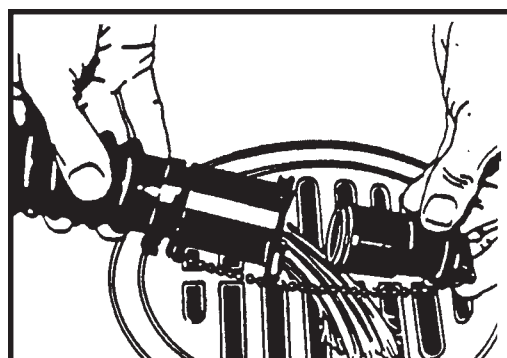

Figure 5
- To open the valve completely, turn the handle to the right. Pull the handle out of valve. (Figure 5)